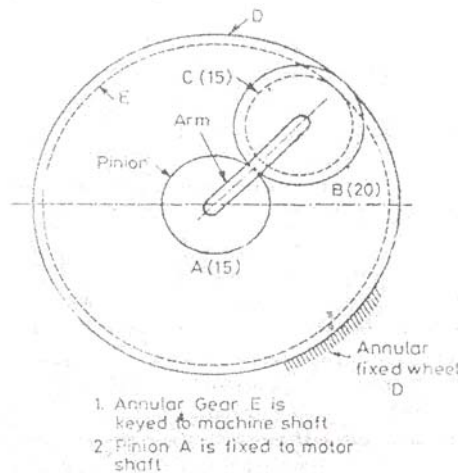

Figure 2
4. Figure 2 shows an epicyclic gear train. Pinion A has 15 teeth and is rigidly fixed to the motor shaft. The wheel B has 20 teeth and gears with A and also with annular fixed wheel D. Pinion C has 15 teeth and is integral with B (B,C being a compound gear wheel). Gear C meshes with annular wheel E, which is keyed to the machine shaft. The arm rotates about the same shaft on which A is fixed and carries the compound wheel B,C. If the motor runs at 1000 rpm, find the speed of machine shaft. Find the torque exerted on the machine shaft if the motor develops a torque of 100 N-m. 16